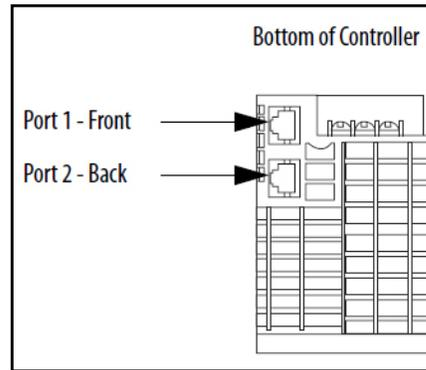

Figure 2-4 PLC Ethernet Connection
- Steam Pressure Transmitter for DA tanks (Fig. 2-4); mounted in steam space. This transmitter provides a sensor input to the ADAC